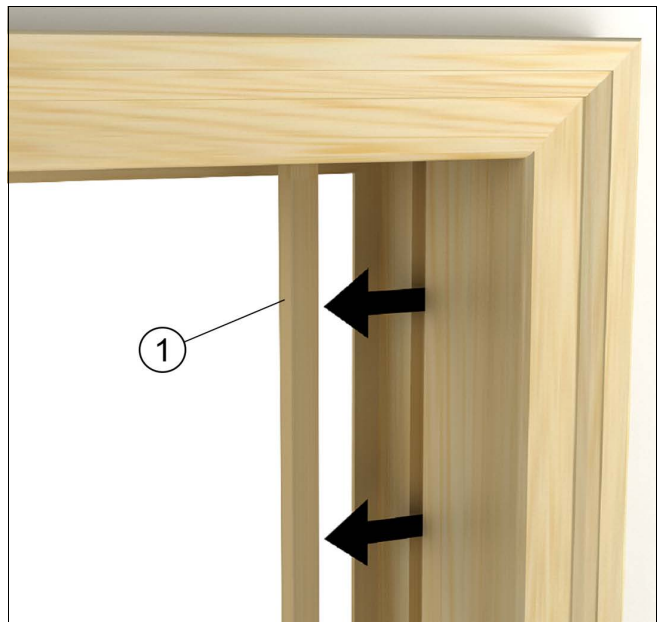

Figure 9
4. Remove parting stops from both side jambs. See Figure 9. Lower the top sash and cut the balance cords. Remove the top sash, disconnect and remove any balance mechanisms attached.
5. Remove the head jamb and side jamb parting stops with a pry bar or adjustable pliers. See Figure 9.